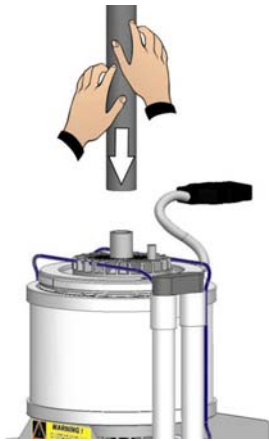

Fig. 23
5. Connect the steam pipe to the cylinder flange sleeve and fix it in place with the supplied clip (fig. 23 and 24).